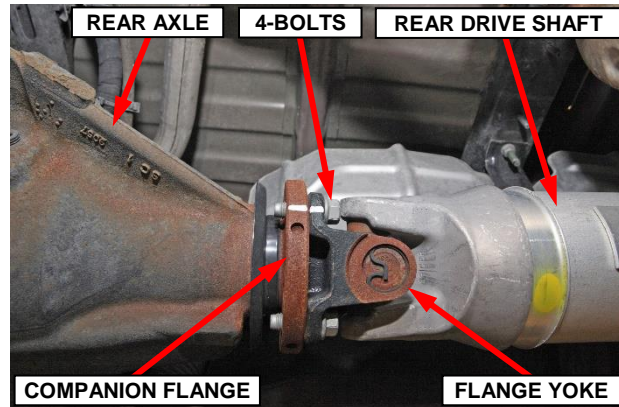

Figure 12 – Rear Drive Shaft
17. Remove and **DISCARD** the four bolts attaching the rear drive shaft flange yoke to the rear axle companion flange (Figure 12).
15. Use the mark made earlier to align the rear drive shaft flange yoke to the rear axle companion flange (Figure 12).
16. Install the four **NEW** bolts attaching the rear drive shaft flange yoke to the rear axle companion flange (Figure 12). Tighten the bolts to 115 N·m (85 ft. lbs.).